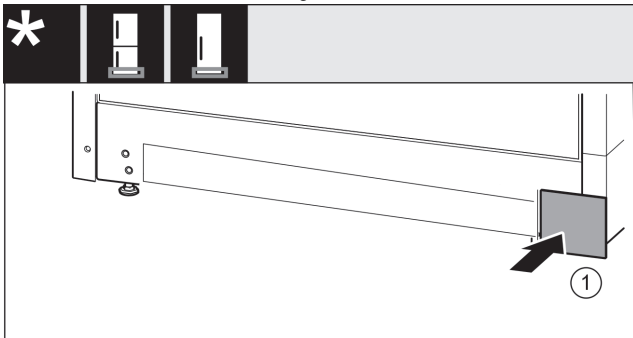

Fig. 20
- ▶ Put back the cover on the other side. Fig. 20 (1)